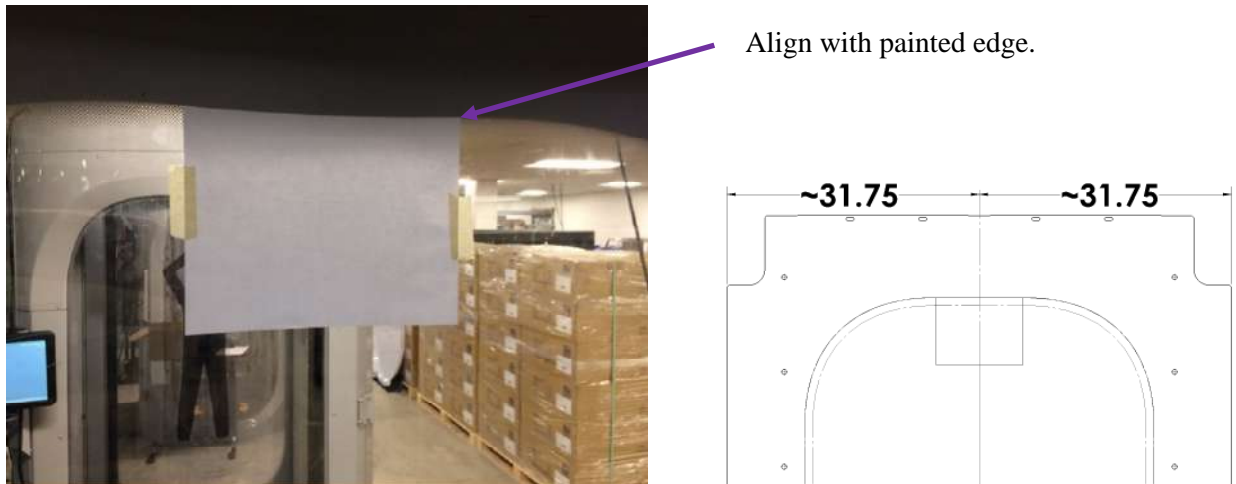

Figure 12 – Initial Registration
7.9.3 From inside the portal, center and align the edge of a standard 8 ½ x 11” sheet of paper as shown in Figure 12. Paper should lay flat against the radome. Use the masking tape provided with the install kit to secure the paper for label registration. A stool may be required to visually see the painted edge. The center point can be measured for accuracy by placing a tape measure flat against the radome.